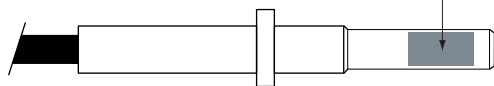

Fig. 3 - Female contact/fibre crimping area
- The data sheet for crimping tool **CLPZ R** explains how the crimping tool works and how to adjust the crimping depth and locator for the contacts to be crimped. Position the turret on 3, push and turn of 90° the knob of turret. Adjust the crimping depth on 2 (unscrew the allen screw, after adjusting reflex the screw). For the female contact: unscrew the back of the contact, pull out the internal central part; on Figure 3 is indicated the crimping area (front part of contact). For male contact: crimp the front part of contact.